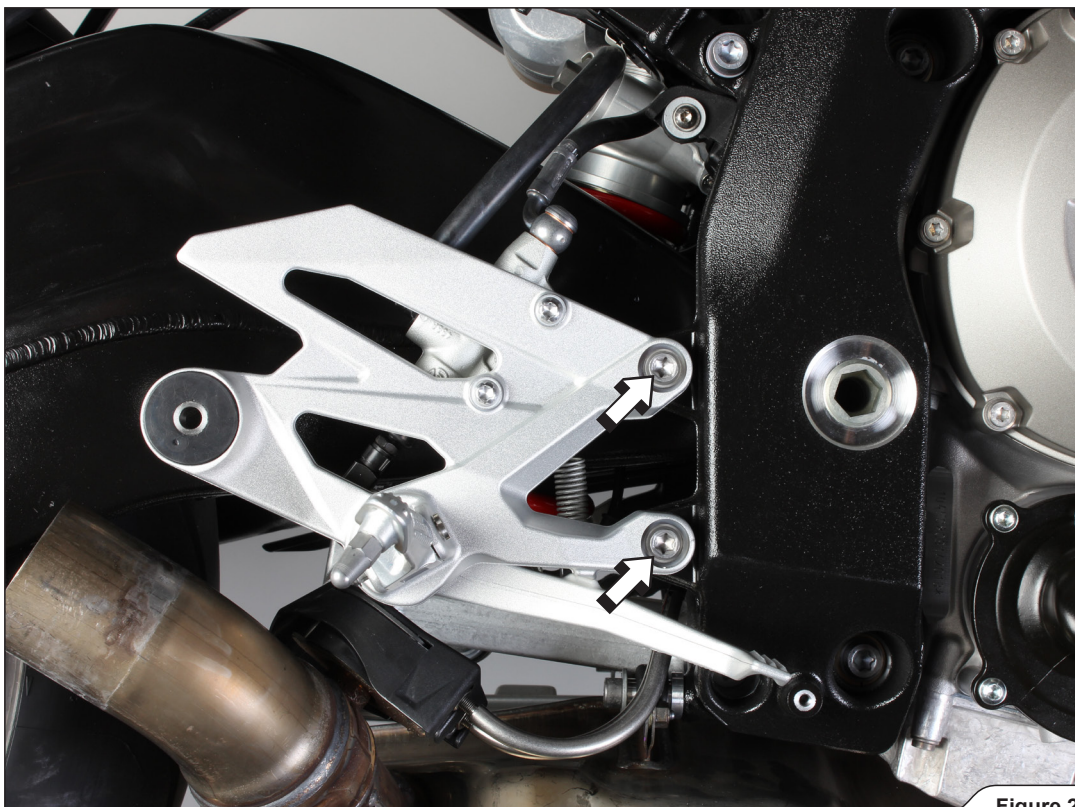

Figure 2
3. Unscrew the right foot peg and move it out of the way (Figure 2).